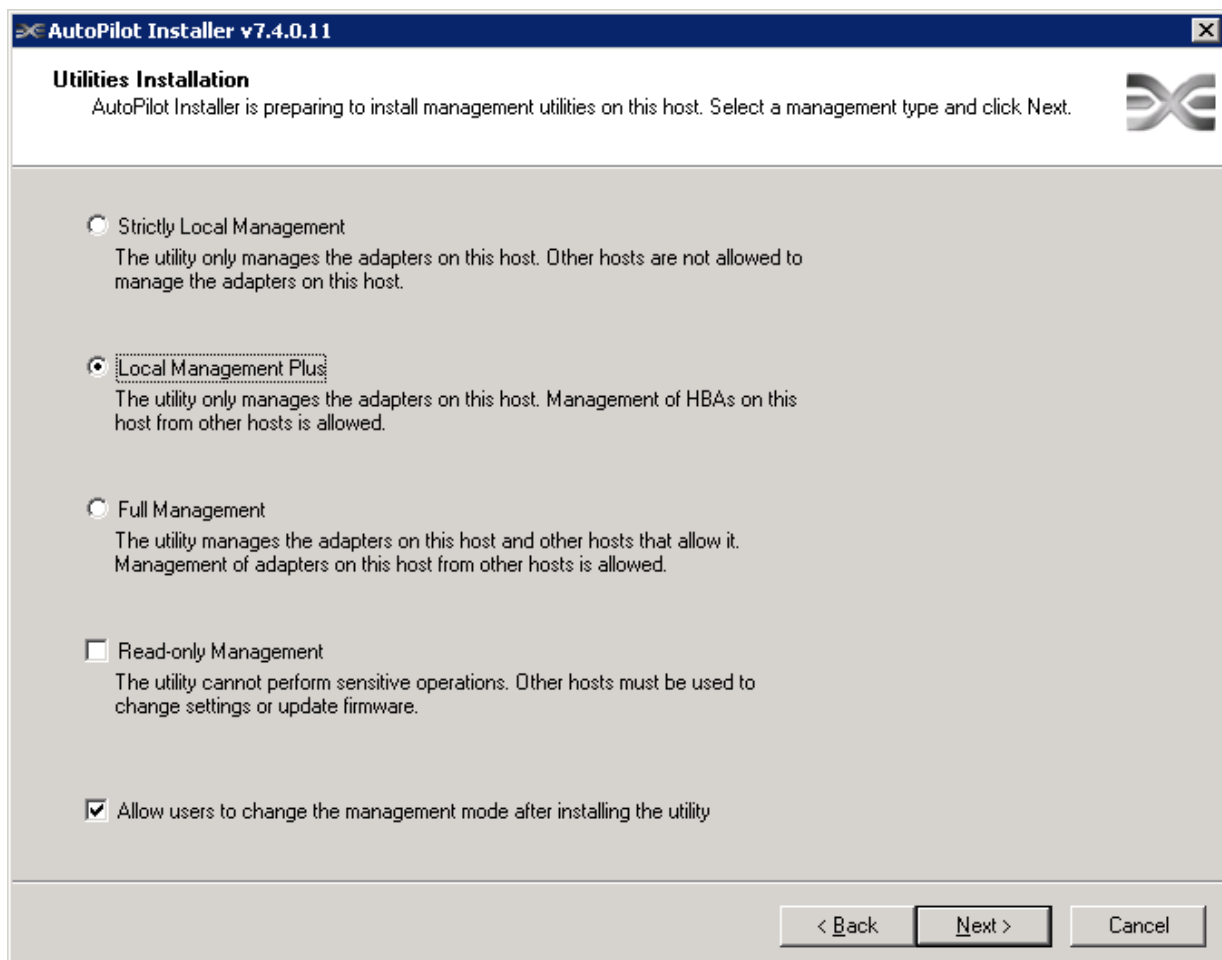

Figure 1: Utilities Installation Management Mode Setup
4. If the Utilities Installation page appears (as seen in Figure 1), select how adapters (local and remote) are managed by the OneCommand Manager application.